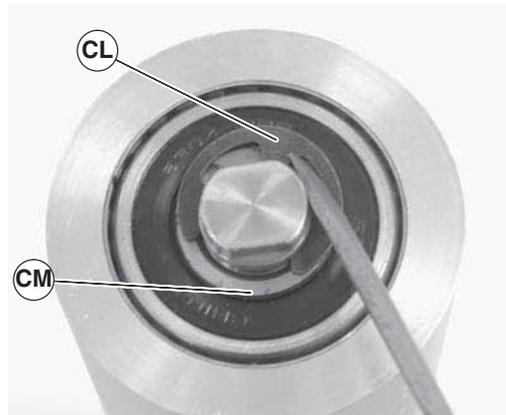

Figure 63
5. Remove the pulley shaft assembly: remove the clip ring (Figure 63, item CL) and washer (CM) from one side of the pulley assembly.